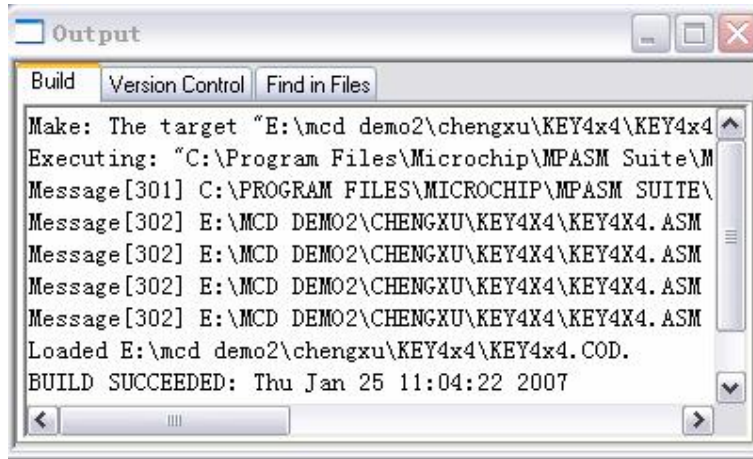

Figure 5-2 Source compiling results
3) Implement the menu command Project→Build ALL or the icon  in the tool bar to compile the source code. The compiled results will be shown as Figure 5-2. We can see from the figure as "BUILD SUCCEEDED", which indicates that the compiling is successful and it has created a KEY4x4.HEX file under the directory of the project (only compiling succeeds can it create such a file).